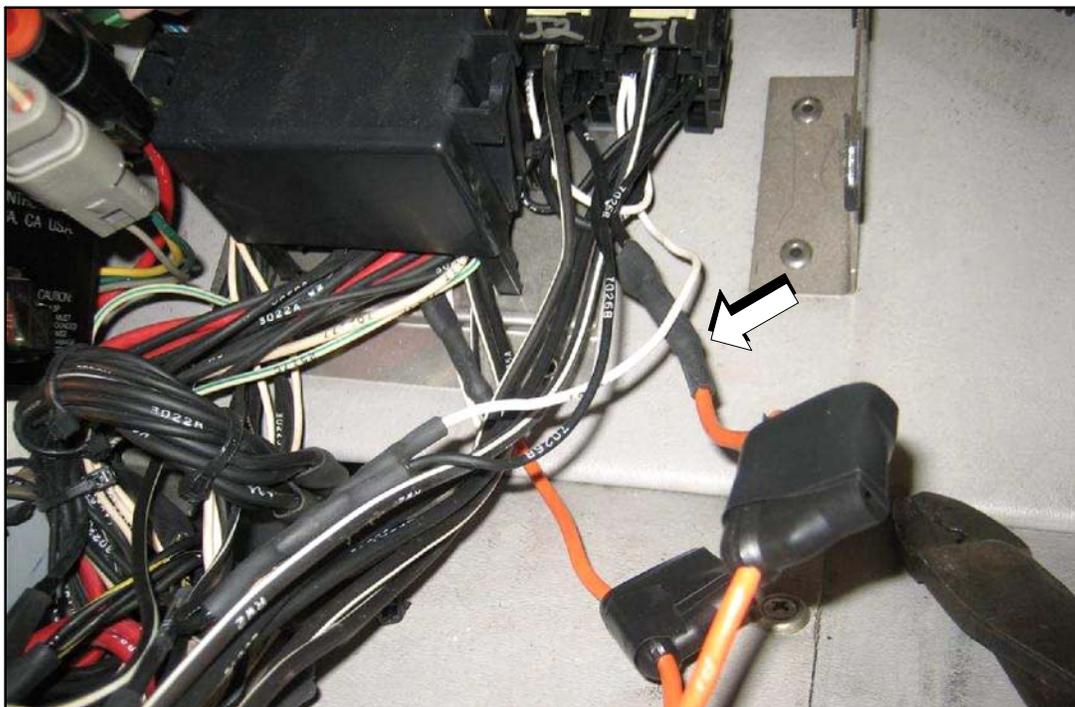

Figure 3.
- 7. Locate the fuse holders (refer to Figure 3). Using wire cutters, cut the wires at the wire splice.